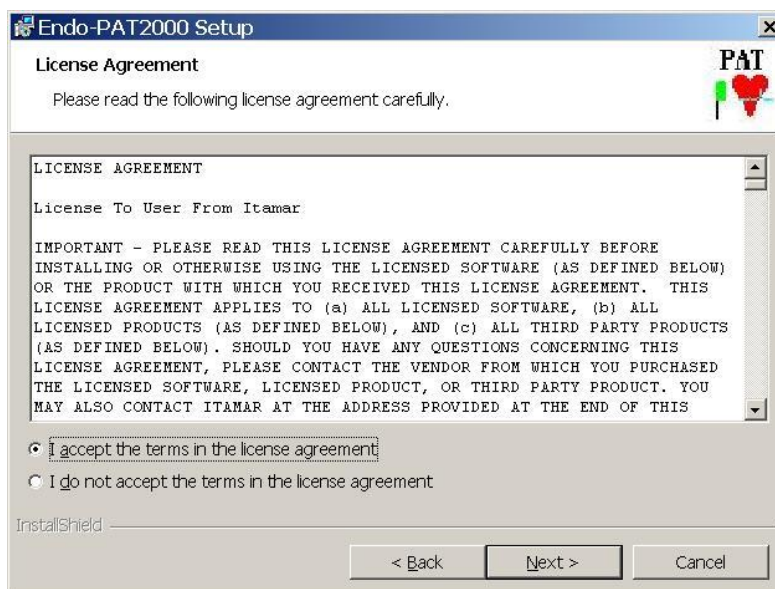

Figure 5 - License agreement
4. Read the license agreement and select the “I accept” option to agree to license terms. Continue with the installation by pressing “next” (Figure 5). Click “I do not accept” if